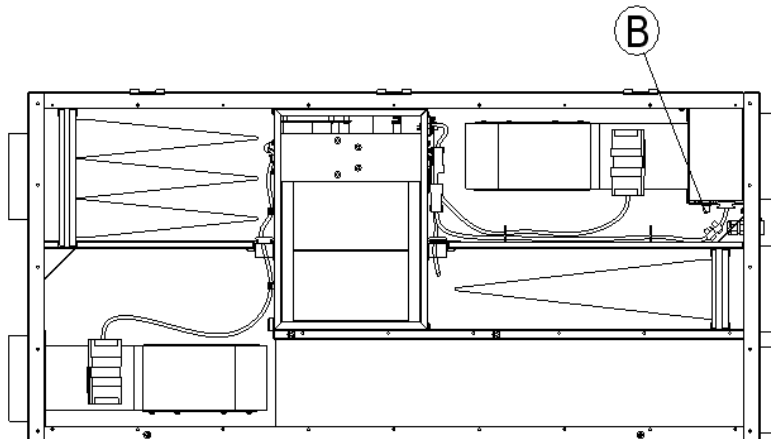

Fig. 10
- b. Check if fire thermostat is still alert. If necessary, reset by pressing the red button “**B**” (**fig.10**) in the unit.